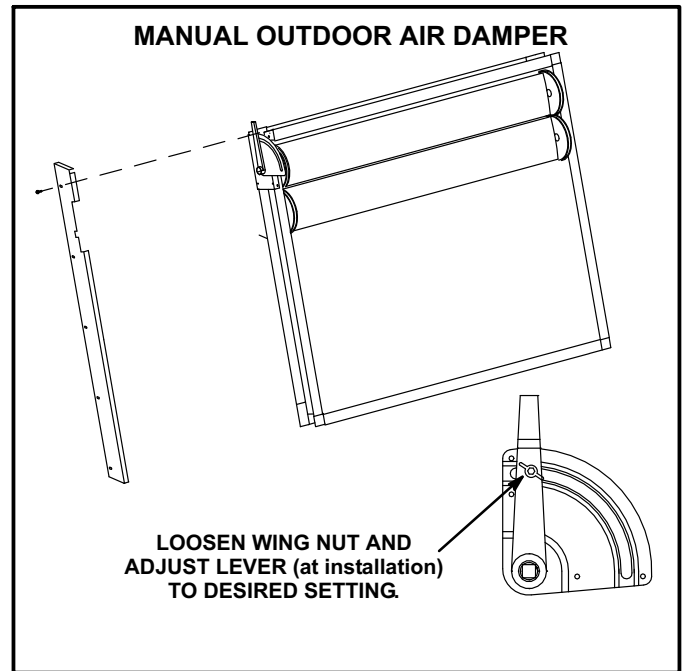
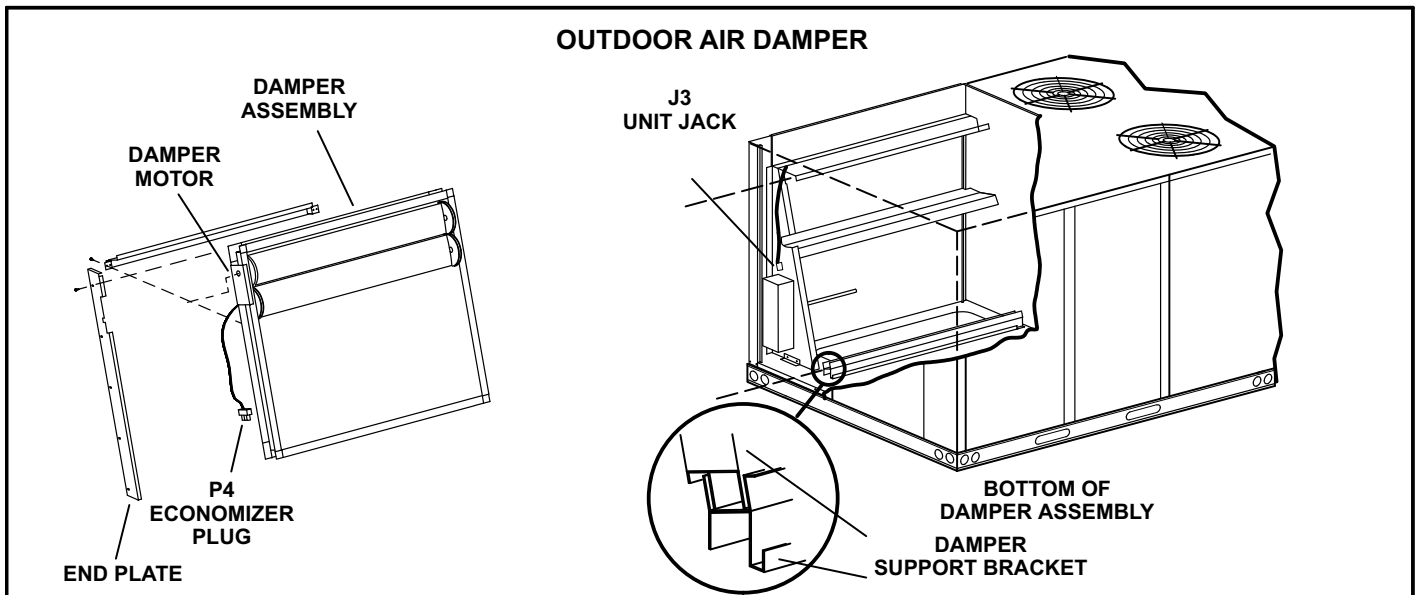

FIGURE 23
FIGURE 25
T1DAMP20 used on TCA units consists of a set of dampers which may be manually or motor (M) operated to allow outside air into the system (see figure 25). Either air damper can be installed in TCA units. The motorized damper assembly opens to minimum position during the occupied time period and remains closed during the unoccupied period. Manual damper assembly is set at installation and remains in that position. See figure 23. Washable filter supplied with the outdoor air dampers can be cleaned with water and a mild detergent. It should be sprayed with Filter Handicoater when dry prior to reinstallation. Filter Handicoater is R.P. Products coating no. 418.